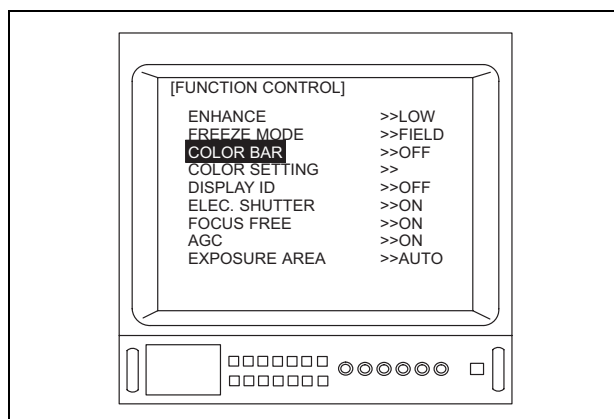

Figure 5.16
5. Depress the menu switch “◀” or the “Enter” key on the keyboard to display the color bar (see Figure 5.16).